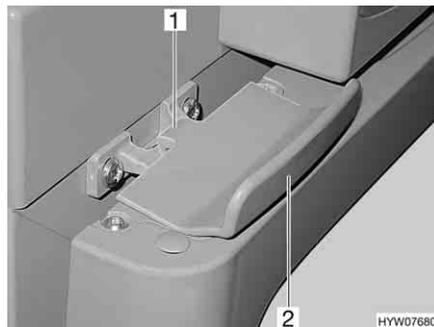

Fig. 159 Lock of refrigerator door, closed (Thetford)
- Open the refrigerator door at the handle (Fig. 159,2). The lock (Fig. 159,1) is released automatically.